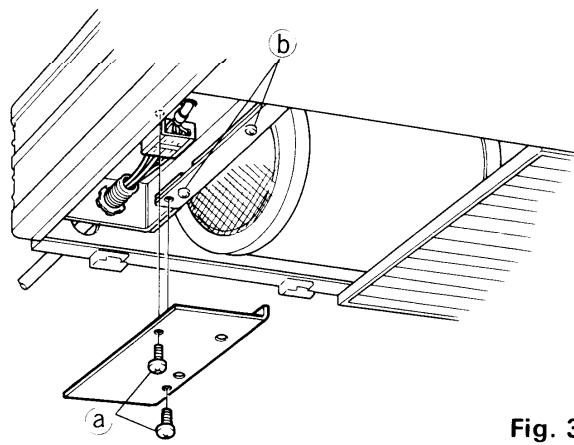

Fig. 3
- 2) When the three screws (b) are removed, the electrical component box can be pulled out to the lower side of the unit. (The one other screw (b) is at the rear between box and casing.) Fig. 3